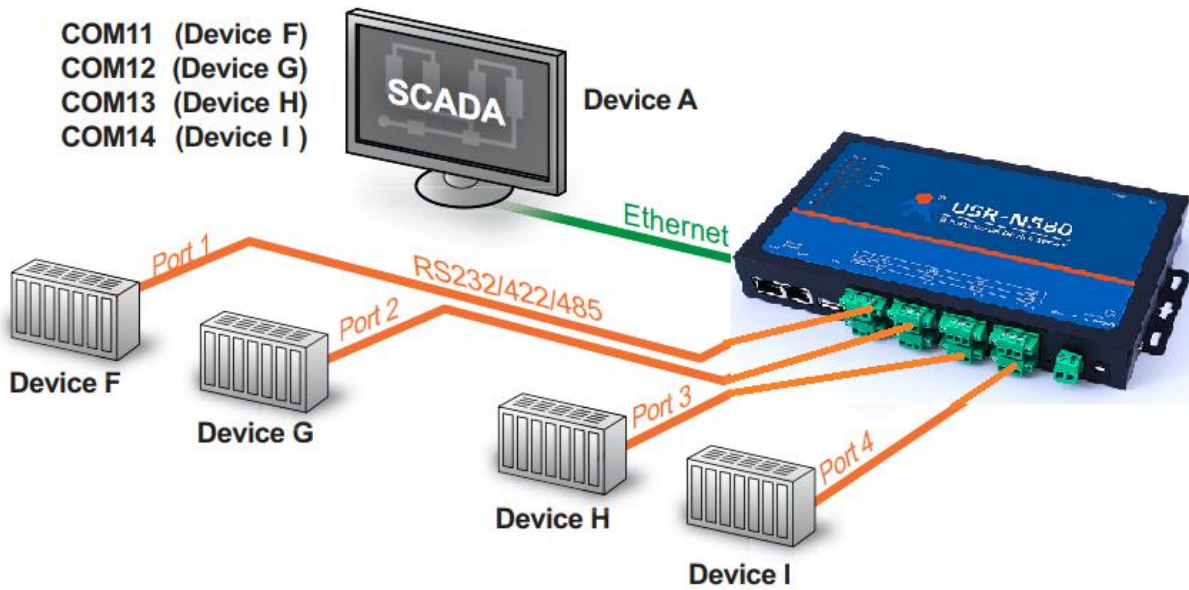

Fig. 68 Diagram of Virtual COM Application over TCP/IP Network
Virtual COM on host computer allows remote access of serial devices over TCP/IP networks through Serial/IP Virtual COM ports that work like local native COM ports. Fig.68 is an example of Virtual COM application diagram. There are traditionally only two Physical COM ports (COM 1 and COM 2) on the personal computer (PC) while there can be several Virtual COM ports such as COM 11,